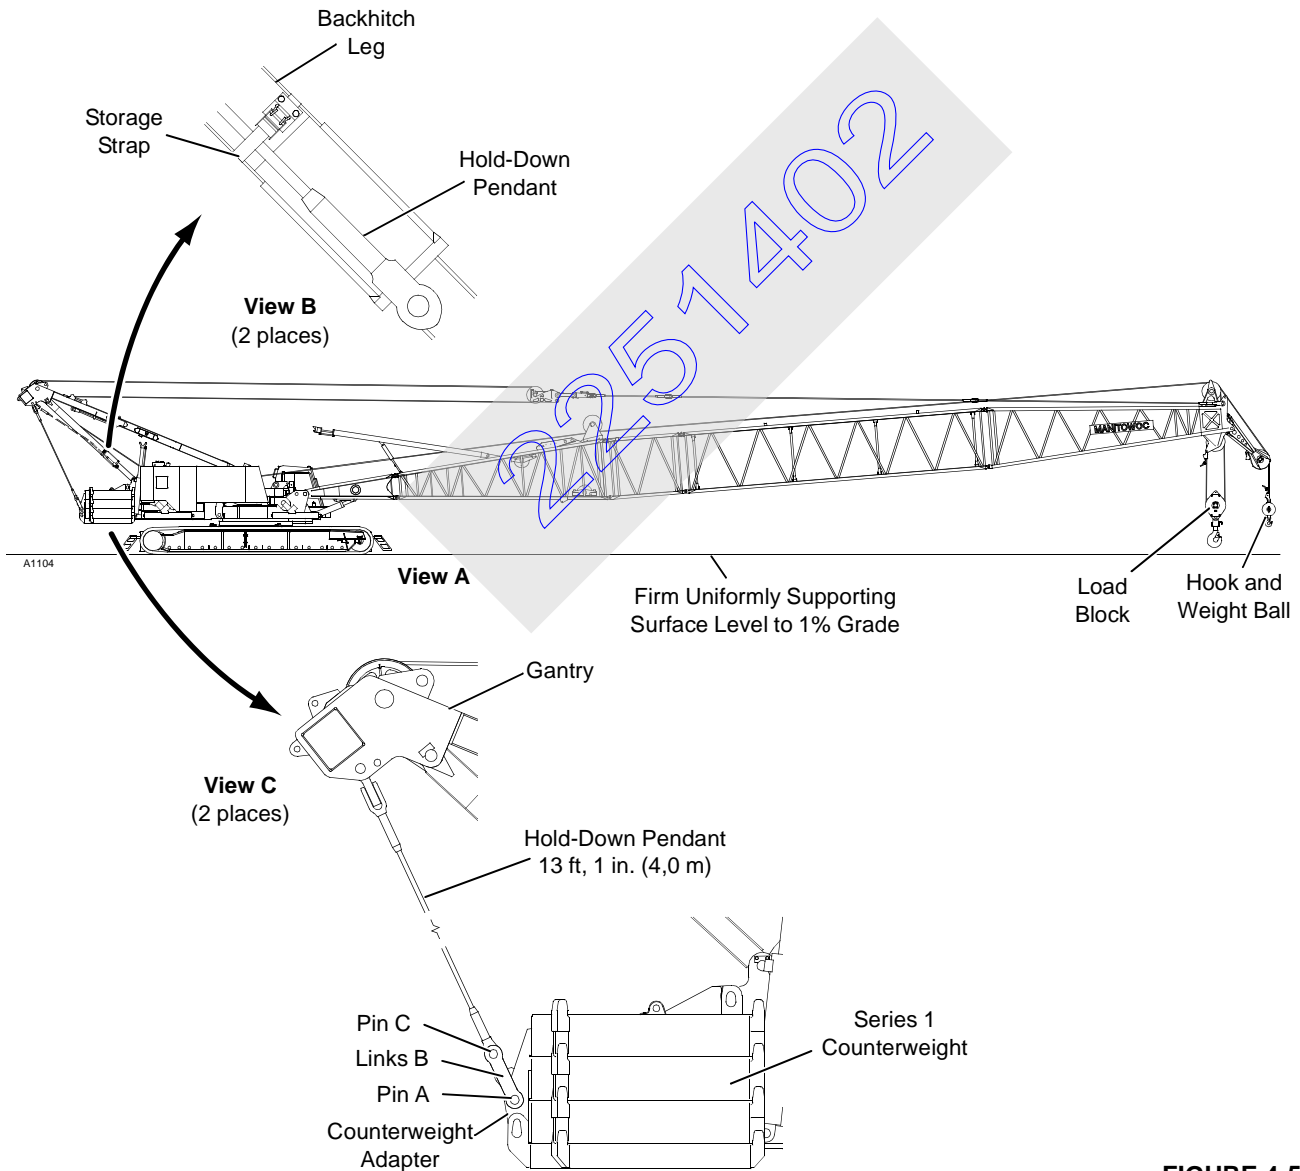

FIGURE 4-58
- See Figure 4-58 for boom length and suspended weight limitations.
3. Reduce boom to desired length listed in Figure 4-58.
- a. Using pin (A), pin links (B) to counterweight adapter (Figure 4-58, View C).
- b. Open storage strap on backhitch leg (Figure 4-58, View B) and lower hold-down pendant from storage
- c. Using pin (C), pin hold-down pendant to links (B, Figure 4-58, View C).
- a. Remove Pin C to unpin hold-down pendant from links (B, Figure 4-58, View C).
- b. Securely connect hold-down pendant to backhitch leg with storage strap (Figure 4-58, View B).
- c. Attach pin (C) in links (B).
- d. If desired, leave links (B) and pins (A and C) attached to counterweight adapter for storage. Otherwise, remove links and pins and store them in a safe location for future use.